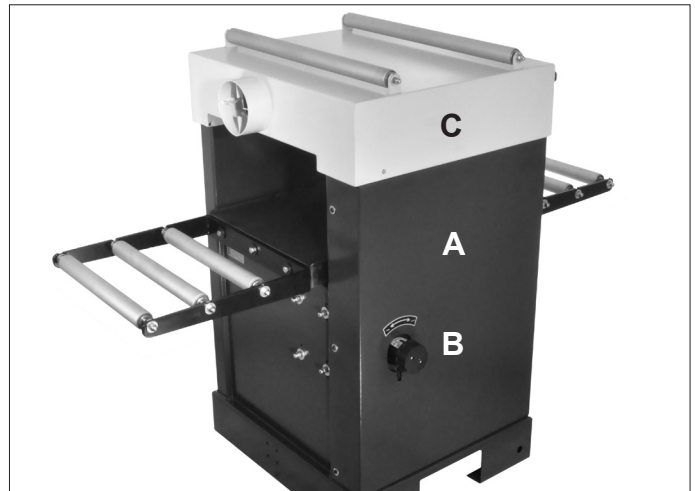

FIG. 23
The cutterhead drive belt and the feed gear drive belt need to be checked periodically and re-tightened if necessary. Belts will stretch with use, especially when they are new and are breaking in. Both drive belts are located behind the machine's side panel. FIG. 23, A & B.
2. Remove the Speed Control Knob (#155, FIG. 23, B)
3. Take off the left side panel (#4, FIG. 23, A) by loosening the six hex head screws (#3) that secure the panel to the cabinet, and also lift up the cutterhead cover (#13) to reveal the motor, pulleys and belts.